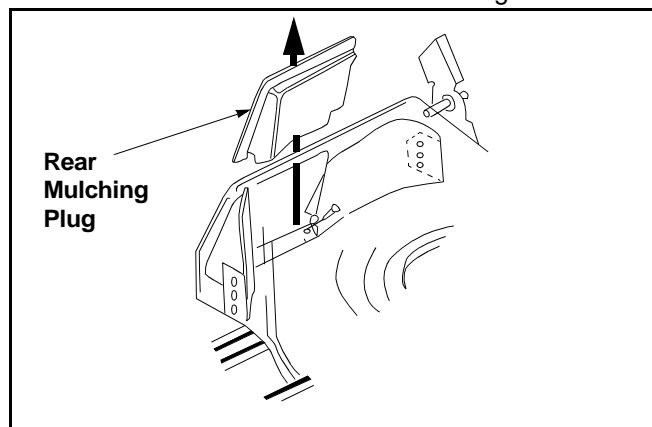

Figure 8
- If your mower is equipped with a rear baffle, and it is in place on the mower, lift the rear discharge door and remove it from the mower. See Figure 8 .